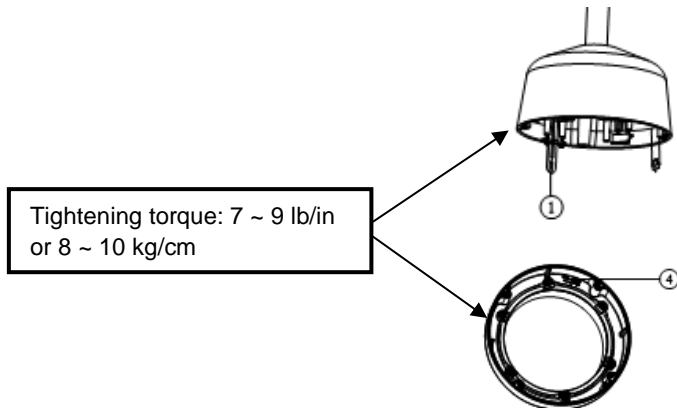

Figure 5 Lower Dome assembly to Pendant
6. Insert the back box into the hole and fasten the 3 screws with a screwdriver so that the locking spring paddles can slide out to secure the back box into the ceiling (refer to **Figure 5**).